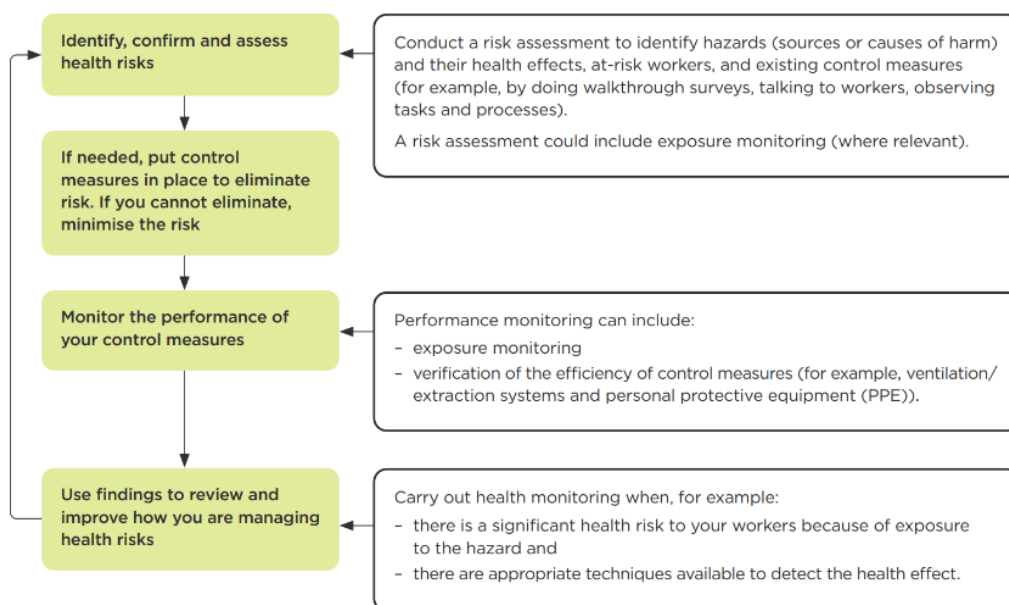

Figure 4: Role of exposure monitoring and health monitoring in managing health risks
- 3.5.3 Exposure monitoring and health monitoring – along with verifying that control measures are working effectively – can be used to manage health risks (Figure 4). Health monitoring can also confirm that control measures are preventing harm.